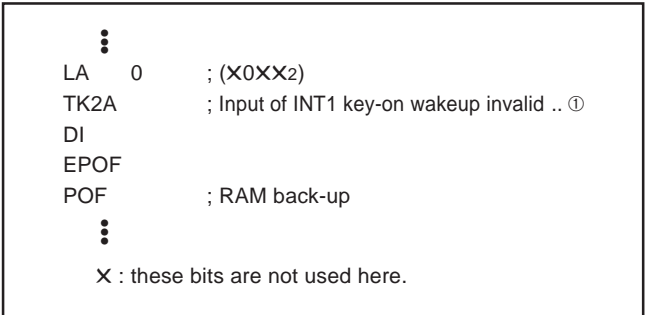

Fig. 22 External 1 interrupt program example-2
- When the input of INT1 pin is disabled (register I23 = "0"), set the key-on wakeup function to be invalid (register K22 = "0") before system enters to the RAM back-up mode. (refer to Figure 22①).